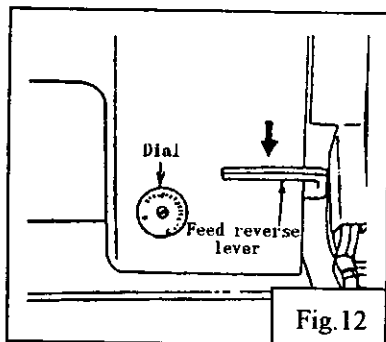

Fig.12
5) Adjustment of stitch length and reverse sewing (Fig.12):